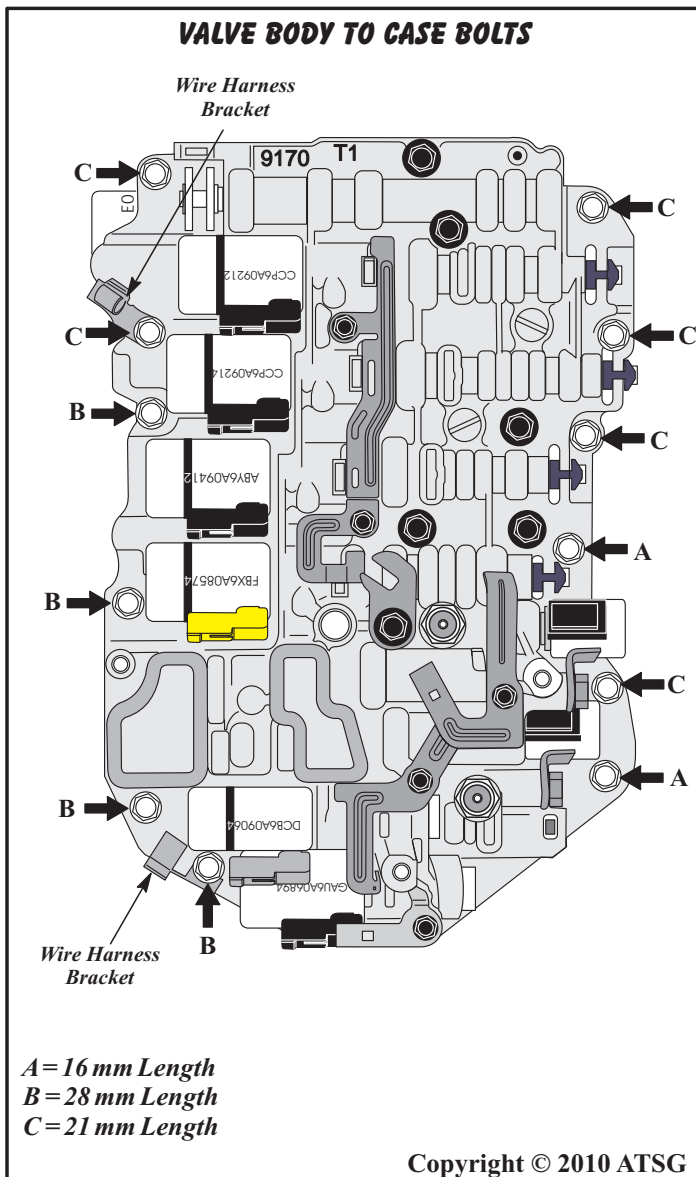

Figure 59
2. Remove only the 12 valve body to case bolts that are identified in Figure 59.